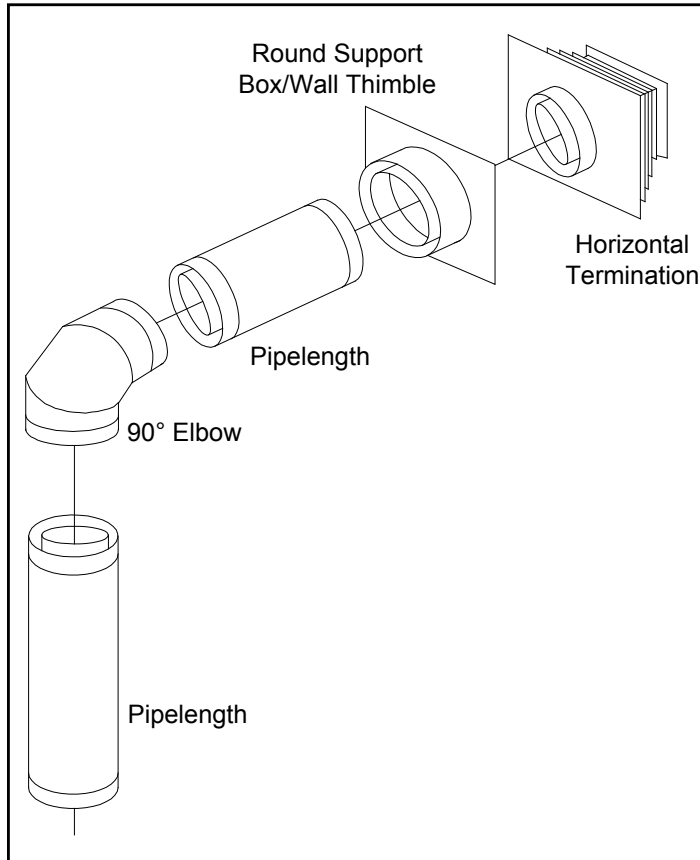

Figure 24 Common Horizontal Installation.
There are three (3) basic types of Direct Vent System installations. The three (3) types of installations are shown in Figures 24 through 26.